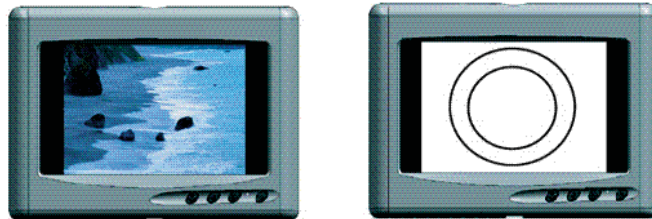
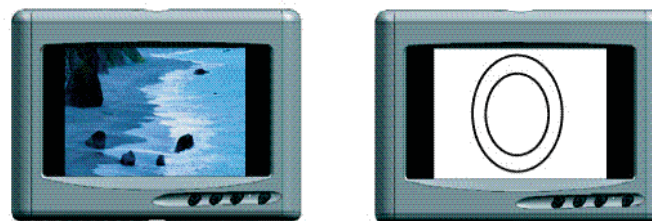

Fig. 1A
Fig. 1B
**Normal Mode:** Displays standard 4:3 aspect video without alteration. A standard 4:3 source image will appear with vertical black bars on the left and right side of the screen (Fig. 1A). If the image source is letterboxed, then there will be horizontal bars at the top and bottom of the image as well. Widescreen 16:9 images will appear horizontally compressed with vertical black bars on the left and right side of the screen . (Fig. 1B)